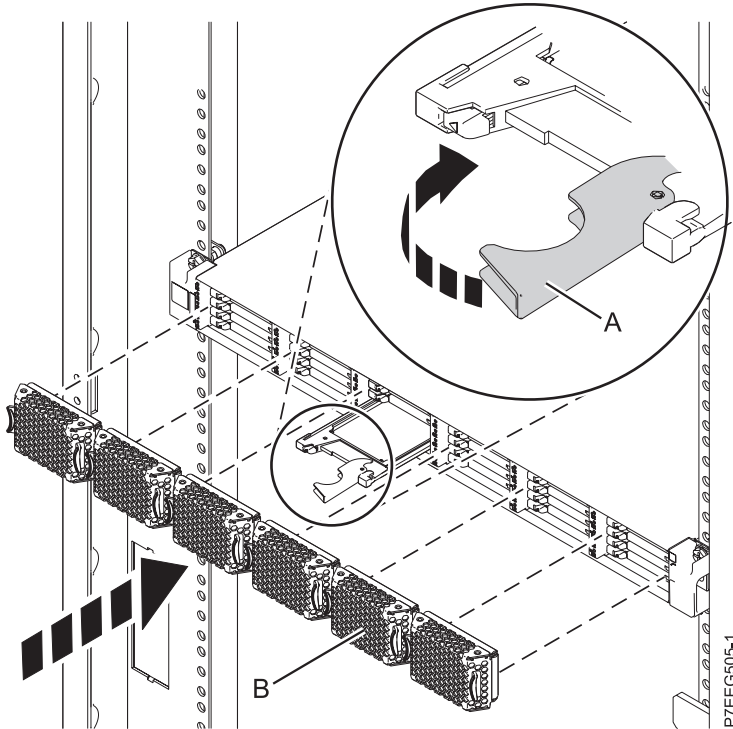

Figure 8. Installing a solid-state drive in the EDR1 PCIe storage enclosure
1. With the handle in the unlocked position, align the solid-state drive with the guide rails in the enclosure. See Figure 8 on page 16,
3. Rotate the handle (A) to the locked position, as shown in Figure 8 on page 16.
4. Install the bezel (B).